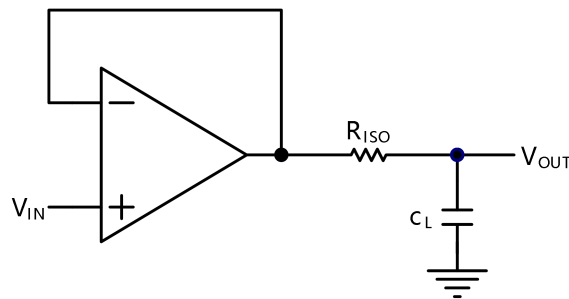
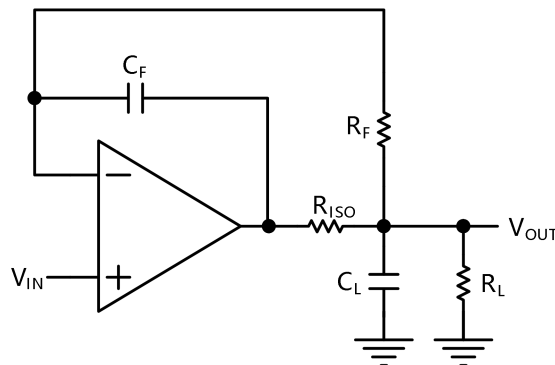

Figure 2. Indirectly Driving a Capacitive Load Using Isolation Resistor
Figure 3. Indirectly Driving a Capacitive Load with DC Accuracy
The CD833X family is optimized for bandwidth and speed, not for driving capacitive loads. Output capacitance will create a pole in the amplifier's feedback path, leading to excessive peaking and potential oscillation. If dealing with load capacitance is a requirement of the application, the two strategies to consider are (1) using a small resistor in series with the amplifier's output and the load capacitance and (2) reducing the bandwidth of the amplifier's feedback loop by increasing the overall noise gain. Figure 2. shows a unity gain follower using the series resistor strategy. The resistor isolates the output from the capacitance and, more importantly, creates a zero in the feedback path that compensates for the pole created by the output capacitance.
The circuit in Figure 3 is an improvement to the one in Figure 2. R_F provides the DC accuracy by feed-forward the V_{IN} to R_L . C_F and R_{ISO} serve to counteract the loss of phase margin by feeding the high frequency component of the output signal back to the amplifier's inverting input, thereby preserving the phase margin in the overall feedback loop. Capacitive drive can be increased by increasing the value of C_F . This in turn will slow down the pulse response.